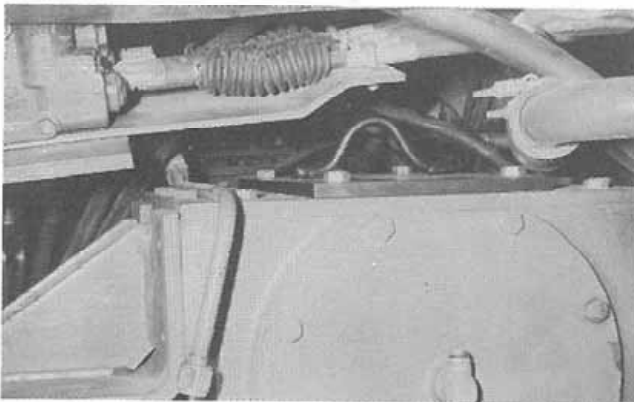

Figure 12:
14. Remove the oil line, vent assembly, return line clamp band and the four (4) middle capscrews from the top of the transfer case. Use the four (4) capscrews to attach the lifting fixture to the transfer case assembly (Fig. 12).